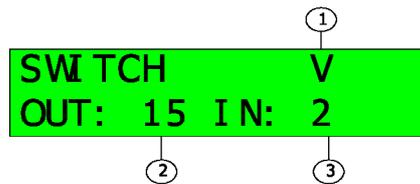

Figure 5: I/O menu
- d) Select input channel: Troll the ENTER button to move the cursor to ③ and select the input channel in the same way as selecting the output channel. Press the I/O or ENTER button and then finish to switch Input channel 2 to output channel 15, and the LED displays as the following figure 5.
- a) Unlock the panel if the panel locked (The LED displays as above figure 5).